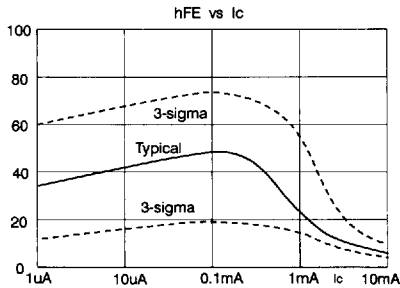

Figure 4
- Current gain = 40 to 90 (Figure 4)